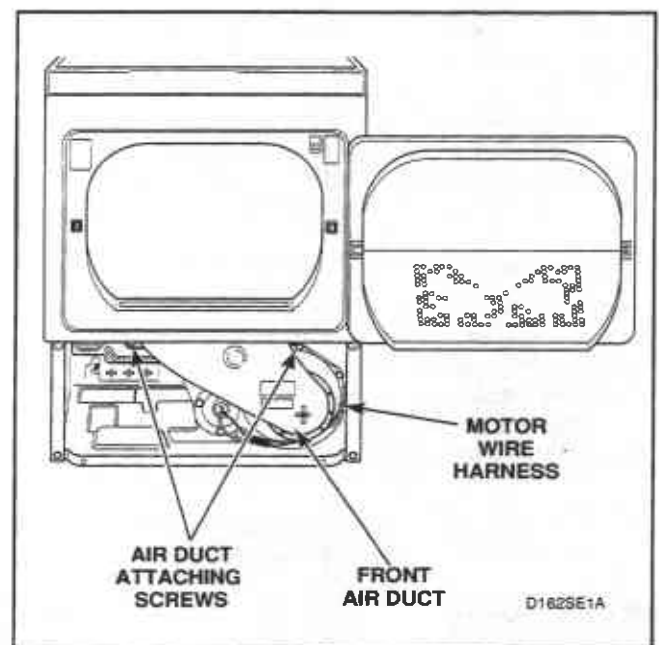
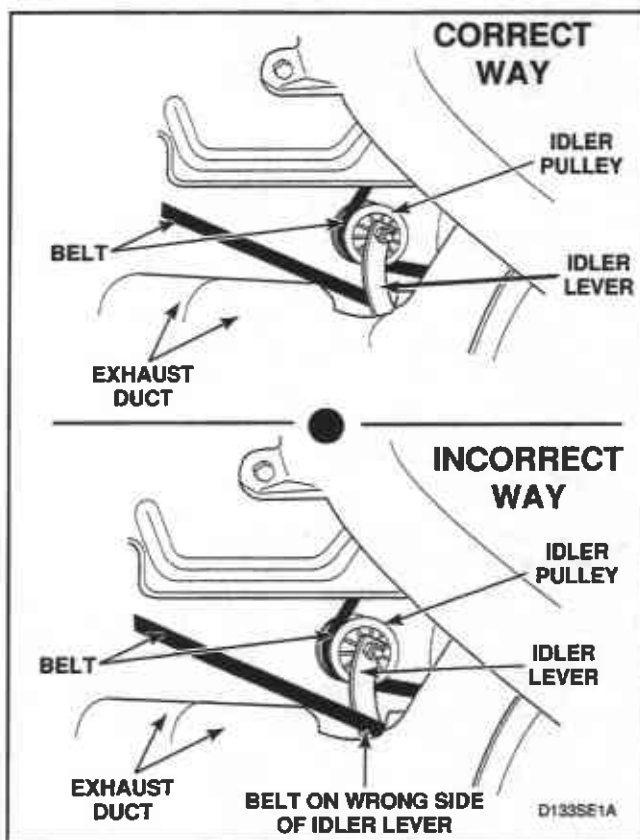

Figure 24
Figure 26
- Remove two screws holding duct to front bulkhead and remove air duct, *Figure 24*.
- Remove screws holding air duct to front bulkhead and remove air duct, *Figure 24*.
- Remove cylinder belt from idler and motor pulleys, *Figure 26*.
IMPORTANT: When reinstalling motor and exhaust assembly, be sure wire harness on right side is clipped to motor mounting bracket and is routed along dryer base (between motor mounting bracket and right side of cabinet), *Figure 24*. Tab on rear of motor mounting bracket must be slid into slot in dryer base. Be sure the belt has been installed on the correct side of the idler lever, *Figure 26*.
- Disengage belt from motor and idler pulleys, *Figure 26*.